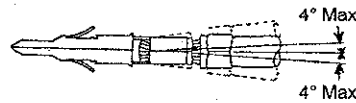

Figure 3
- The contact including the cutoff tab and burr shall not be bent above or below the datum line more than the amount shown in figure 3.